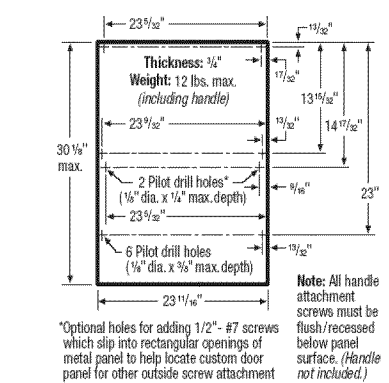

Figure 4
3. Locate water inlet valve behind kickplate on bottom left underside of unit. See Figure 4. The valve has a 3/8" NPT female fitting. Remove Plug
4. Wrap 90° elbow (not included) with pipe thread tape (or apply joint compound) and thread it into water inlet valve. When tightened, elbow should point toward the left. To prevent bending of bracket or breaking of valve, avoid overtightening. See Figure 4.
Refer to the Figure 4 for instruction references.